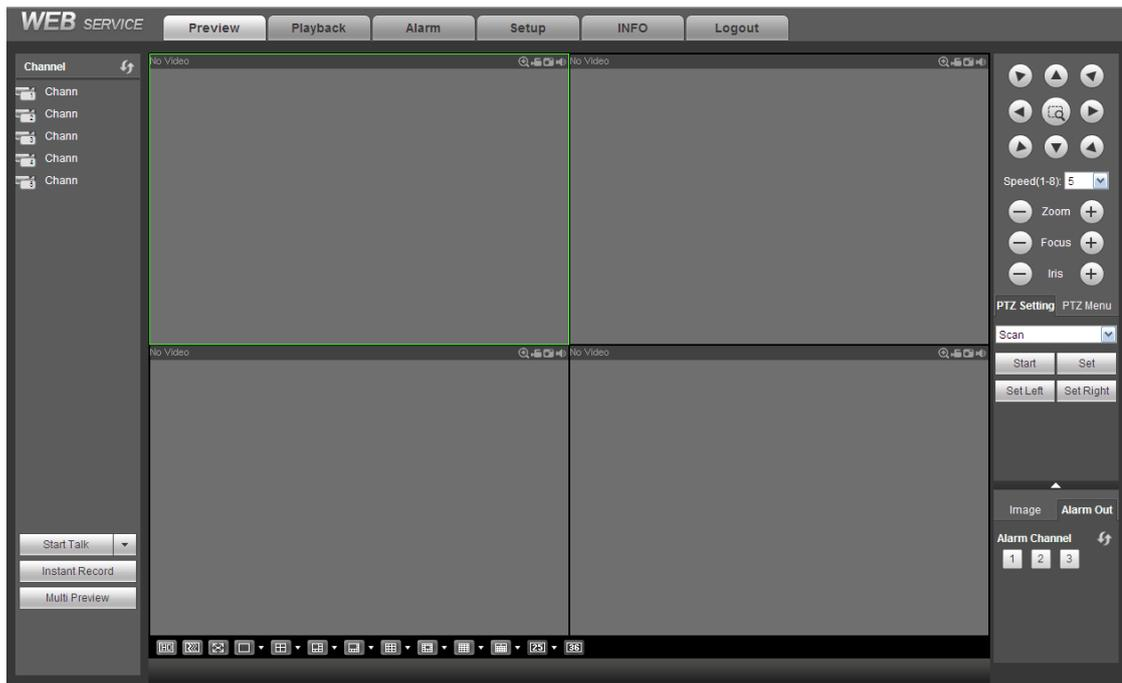

Figure 3-21
- 2) You can select different channels and different monitor modes at the bottom of the interface. See Figure 3-21.